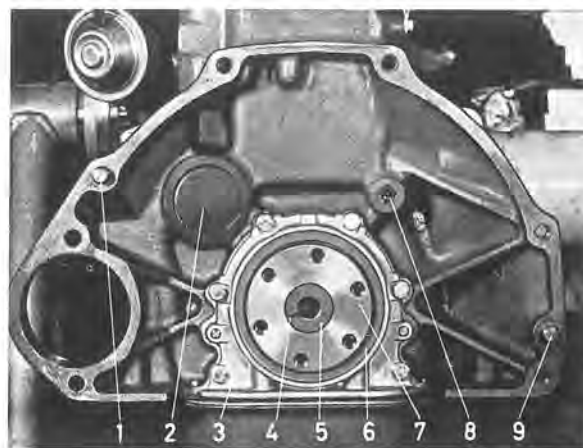

Fig. 2-24. Rear end of engine
The pilot bearing (5, Fig. 2-24) should be lubricated before fitting with heat-resistant ball bearing grease. The bearing and protecting washer are held in position by a circlip (4).